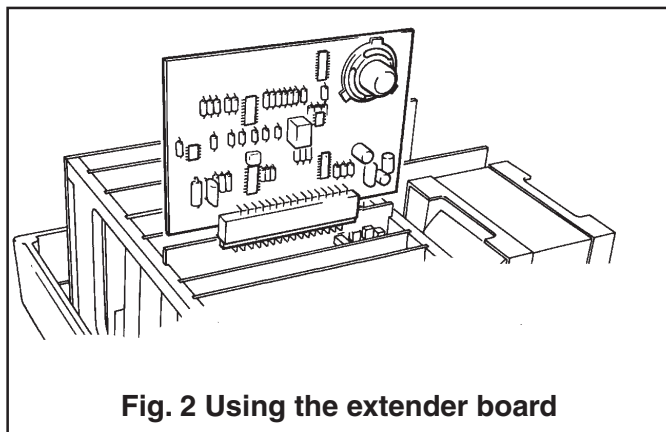

Fig. 2 Using the extender board
EXTENDER BOARD (Fig. 2)
6.24 When it is necessary to test a board, disconnect plug from socket P1 on mains transformer board (see 22, parts list 1) and wait for five minutes to allow capacitor (12, parts list 1) to discharge. Disconnect/remove the board from the mother board and replace it with the extender board. Plug the removed board into the top of the extender board as shown in Fig. 2. Where applicable, any disconnected cables should be reconnected to the board being serviced.